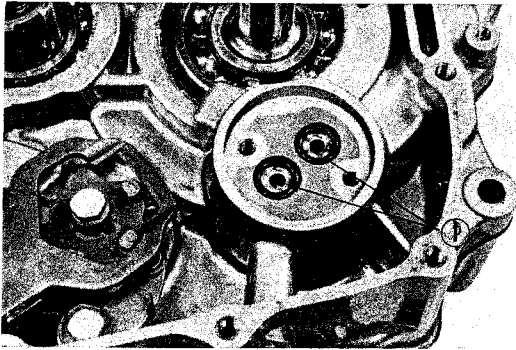

Fig. 61 ① O ring
**Do not forget to assemble two 2.4×9.4 "O" rings. (Fig. 61)**